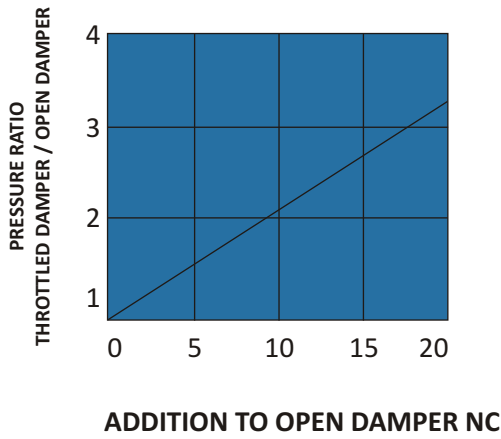

Fig 1 - Throttled damper NC factors
2. NC level : The permissible sound level in each space is specified by the consultant or determined by the designing engineer. Fig. 1 indicates the recommended NC levels for various applications.